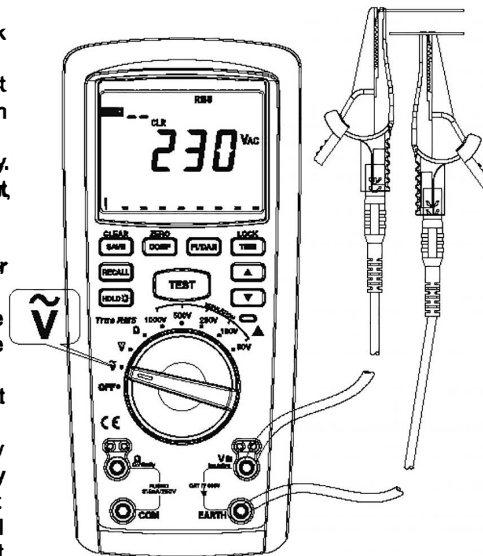

Figure 4
1. Measurement of AC voltage (See Figure 4)
- ① Insert red test pen in "V~" jack (red hole) and black test pen in "EARTH" jack (black hole).
- ② Push the rotating switch to the gear "V~" and connect test pen in parallel with the power source or to both ends of the load to be measured.
- ③ Directly read the measured voltage value from display.
- ④ To save the measured voltage value during measurement, just push the button "SAVE".